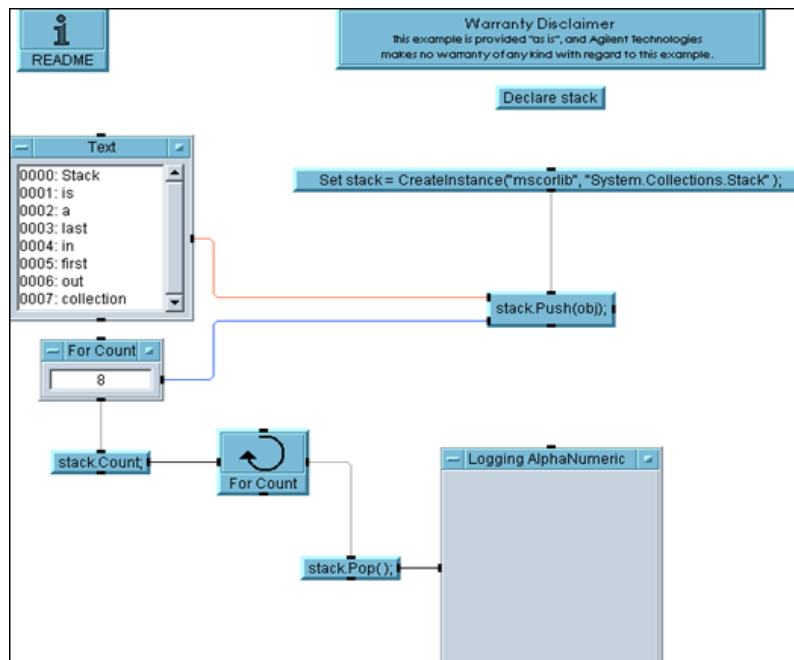

Figure 4-10 DotNET example : "Stack"
- 1 Select Menu Bar => Help => Open Example => DotNET => Stack. See Figure 4-10.